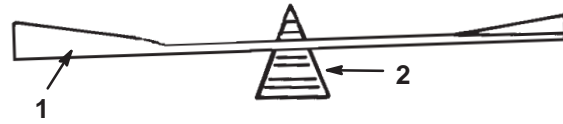

Figure 30
2. Check the balance of the blade by putting it on a blade balancer (Fig. 30). If the blade stays in a horizontal position, the blade is balanced and can be used. If the